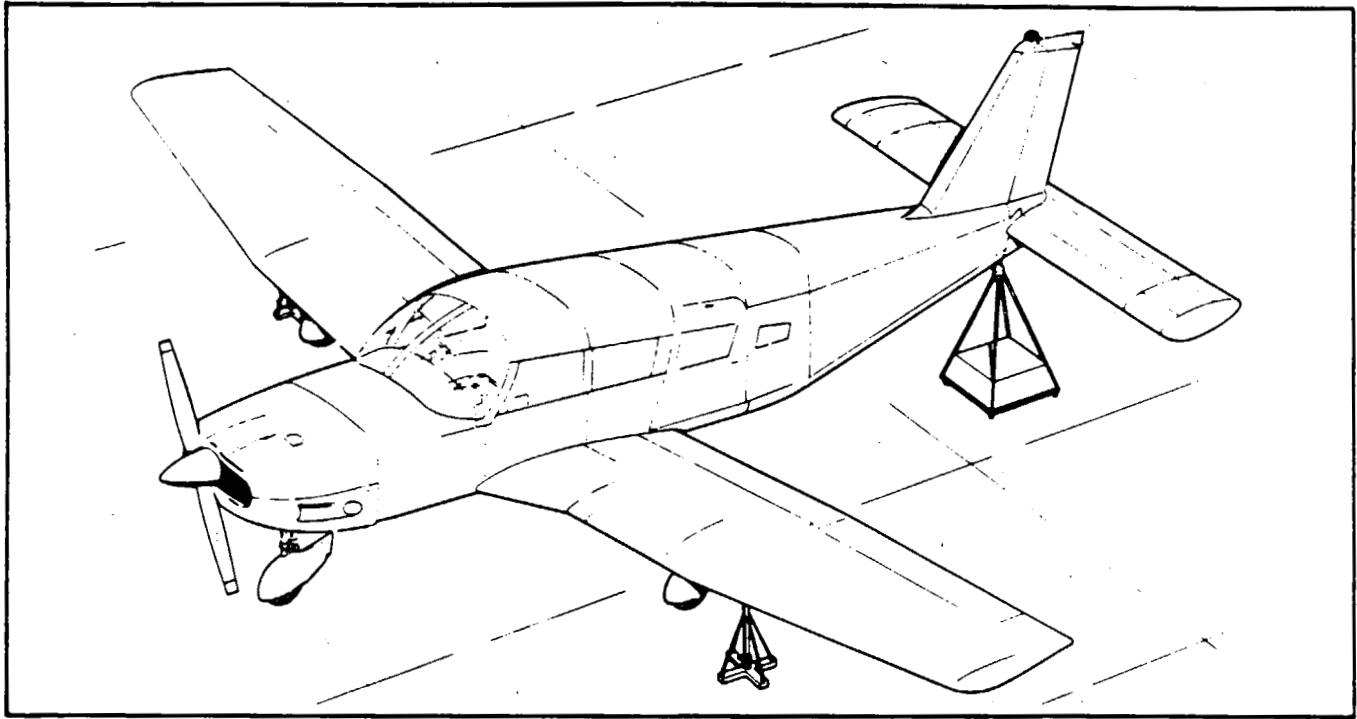

Figure 7-1. Jacking
2. Attach a tail support to the tail skid. Place approximately 300 pounds of ballast on the support to hold the tail down. (Refer to Figure 7-1.)